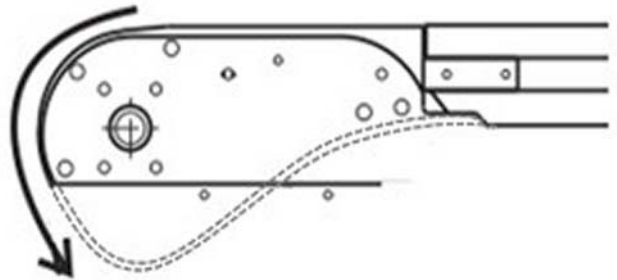

Figure 113
- The conveyor chain must show some slack during operation (See **Figure 113**).